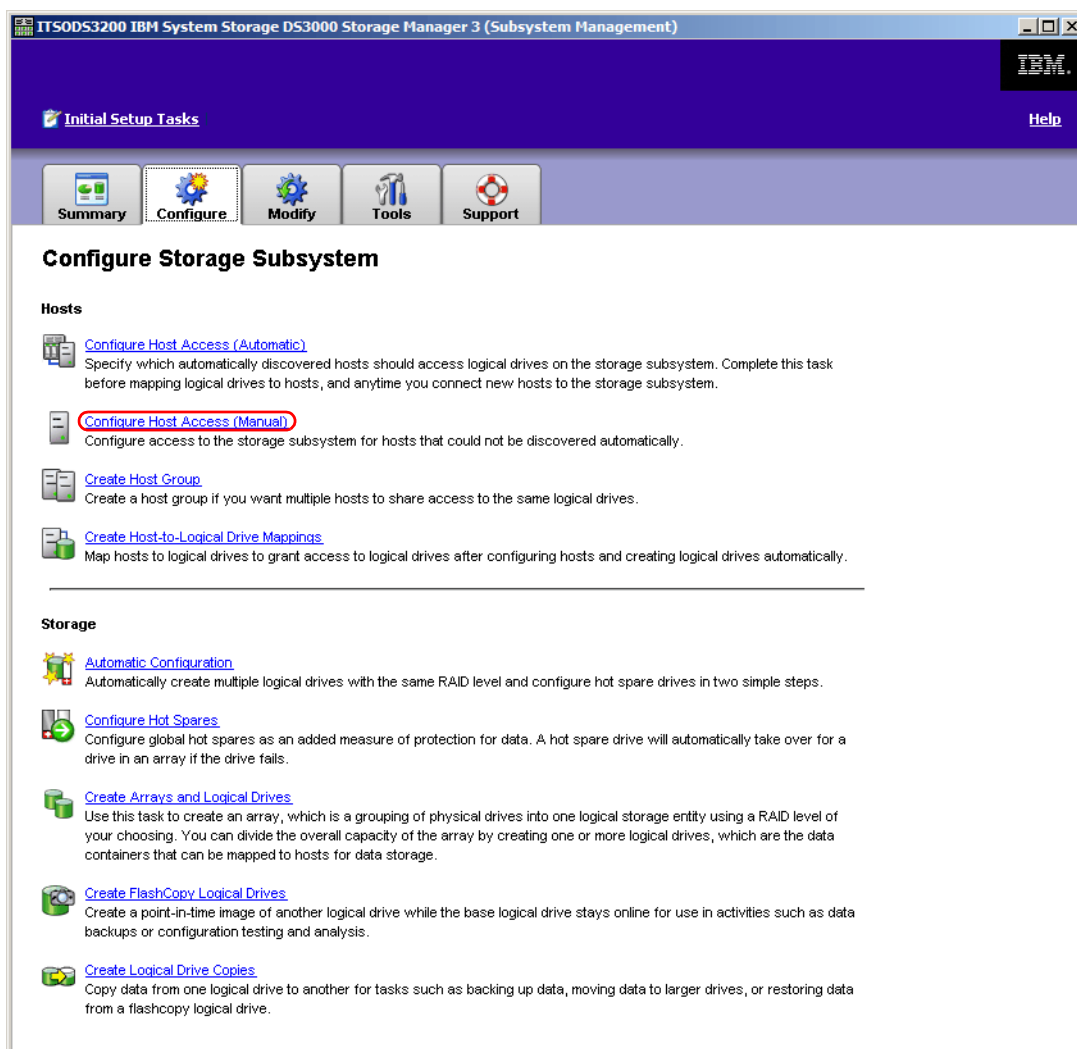

Figure 20-25 Configure Host Access
1. Select **Configure Host Access (Manually)** from the Configure tab in the DS3200 Subsystem Management window, as shown in Figure 20-25.